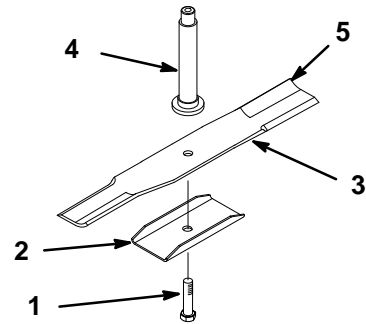

Figure 33
1. Hold the blade end using a rag or thickly padded glove. Install the blade, stiffener, and the blade bolt (Fig. 33).